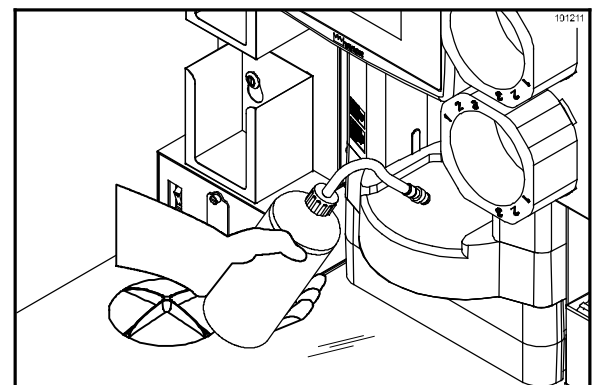

Figure 117
68. Using the squeeze bottle of cleaning solution, thoroughly flush the dispensing drain area. (See Figure 117.)